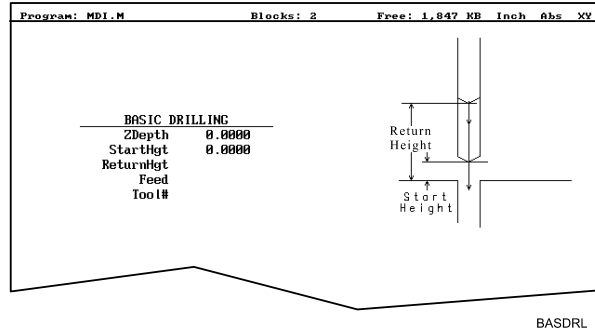

Figure 5-1, BASIC DRILLING Graphic Menu
2. Highlight **Basic**, and press **ENTER** to display the **BASIC DRILLING** Graphic Menu. Refer to **Figure 5-1, BASIC DRILLING Graphic Menu**.